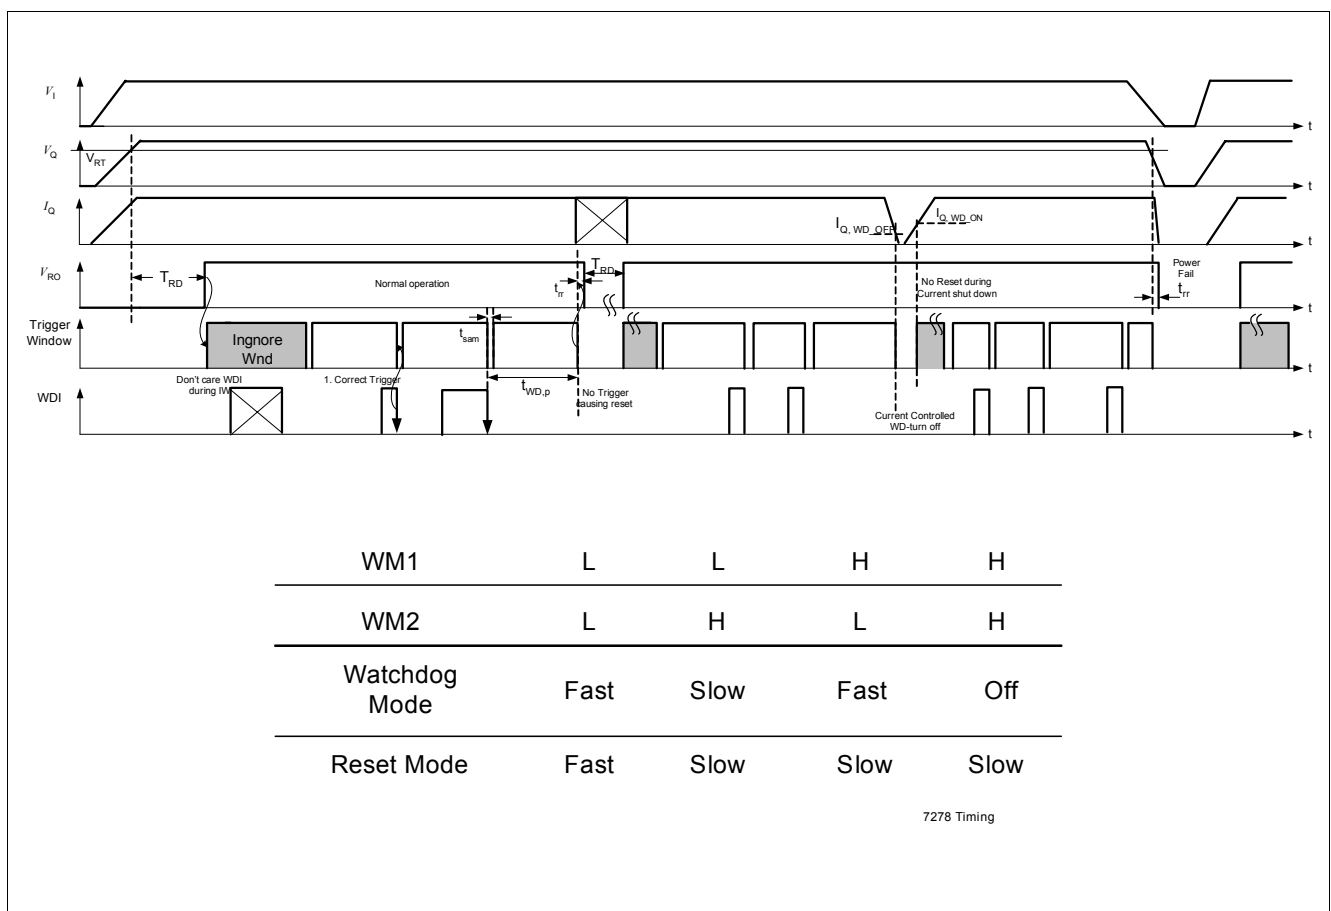

Figure 5 Watchdog Timing Diagram, Watchdog and Reset Modes
| 6 | WM2 | Watchdog Mode Bit 2 watchdog and reset mode selection, see Figure 5 ; connect to Q or GND |
| 7 | WM1 | Watchdog Mode Bit 1 watchdog and Reset mode selection, see Figure 5 ; connect to Q or GND |
The watchdog uses a fraction of the charge pump oscillator's clock signal as timebase. The watchdog timebase can be adjusted using the pins WM1 and WM2 (see **Figure 5**). The watchdog can be turned off setting WM1 and WM2 to high level. The timing values used in this text refer to typ. values with WM1 and WM2 connected to GND (fast watchdog and reset timing).
Figure 5 shows the state diagram of the watchdog (WD) and the mode selection. After power-on, the reset output signal at the RO pin (microcontroller reset) is kept LOW for the reset delay time T_{RD} of typ. 16 ms. With the LOW to HIGH transition of the signal at RO the device starts the ignore window time t_{CW} (32 ms). Next the WD starts the Watchdog Period (time frame within a trigger at WDI must occur). From now on the timing of the signal on WDI from the micro controller must correspond the WD-Period $t_{WD,p}$ correspondent the electrical characteristics and based on the setting on the WM pins. A Re-Trigger of the WD-Period is done with a HIGH-to-LOW Transient at the WDI-pin within the set $t_{WD,p}$.